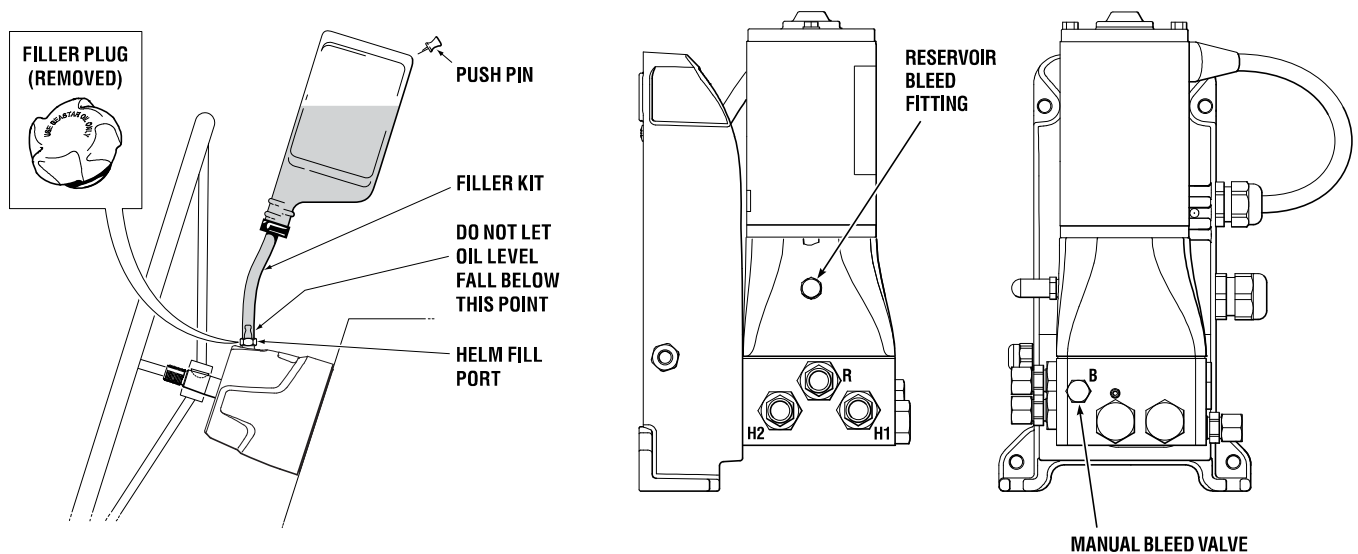

Figure 4-2.
- Connect one of the Power Purge's fluid return lines to the bleed fitting on the power assist reservoir (see figure 4-2).
- On the P/A, open the manual bleed valve two full turns (see figure 4-2) and the reservoir bleed fitting one to two turns.